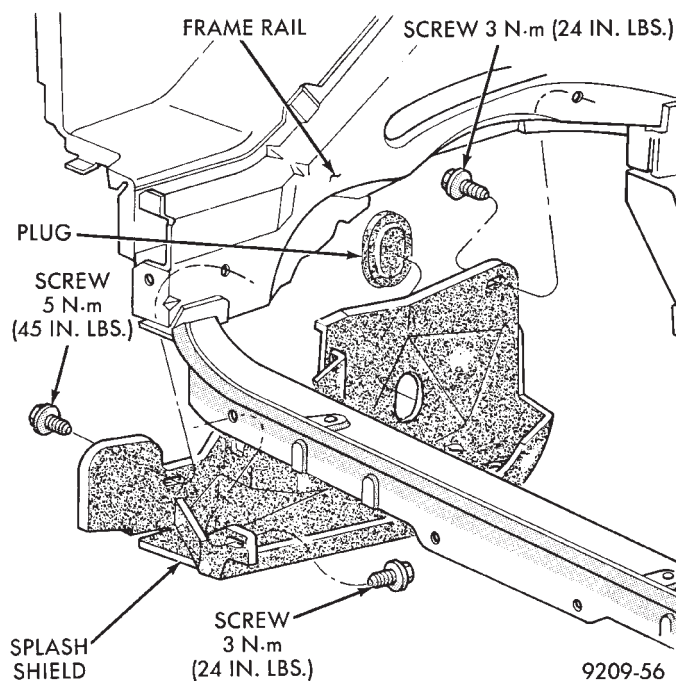

Fig. 2 Right Inner Splash Shield
- (1) Remove Solid Mount Compressor Bracket. Refer to procedure outlined in this section.
- (2) Raise vehicle on a hoist and remove right inner splash shield (Fig. 2).